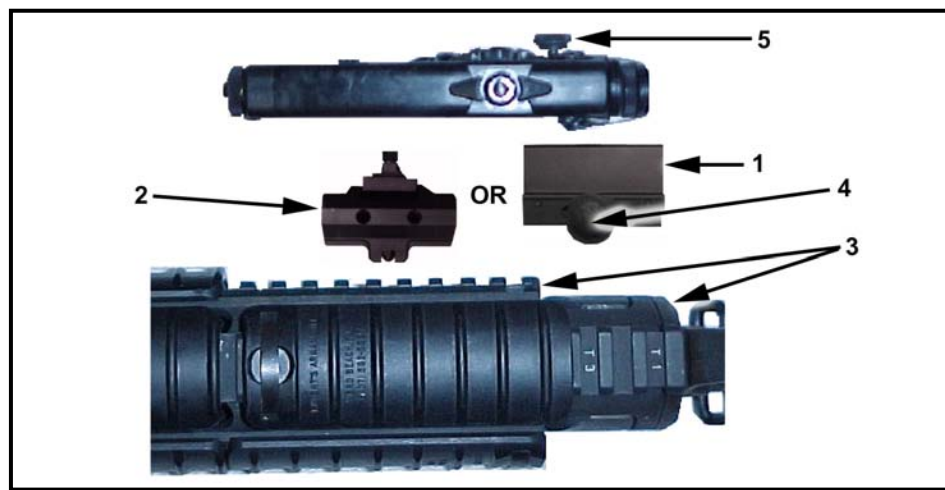

Figure 2-32. Mounting the AN/PEQ-2A on the M16A4 and M4 MWS.
b. **M16A4/M4 MWS Weapons** (Figure 2-32). The Picatinny rail grabber (1) or the Insight rail grabber (2) may be used to mount the AN/PEQ-2A to the RAS. Mount the rail grabber all the way forward on the top or either side of the RAS ensuring it does not extend beyond the end of the RAS. (The AN/PEQ-2A will not retain zero if the rail grabber extends beyond the end of the integrated rail when mounted.) Tighten the torque-limiting knob (4) until it clicks twice. If installing the AN/PEQ-2A with the Insight rail grabber you must tool tighten the AN/PEQ-2A and rail grabber or it will come loose. Align the thumbscrew (5) on the AN/PEQ-2A with the hole that is closest to the front sight assembly located on the top of the rail grabber. The mounting procedures are identical for the M16A4 and M4-series modular weapon systems. If the aiming light and rail grabber are removed as a whole unit and mounted onto the same rail, the system will retain zero. If the rail grabber and AN/PEQ-2A are separated, the AN/PEQ-2A must be rezeroed to the weapon.